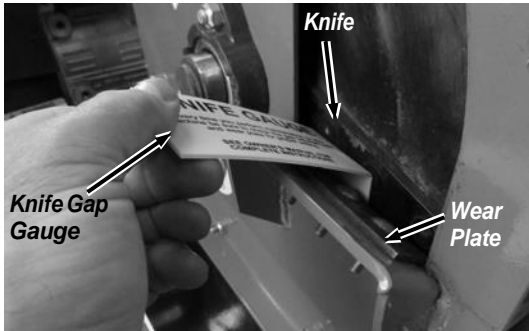

Figure 34
3. Slide the Knife Gap Gauge in between the Knife and Wear Plate to check the clearance (**Figure 34**).
5. Slide the Gap Gauge between the Knife and Wear Plate (**Figure 34**). Adjust the Wear Plate against the Knife Gauge and tighten the outside Locknut, check the gap, tighten the inside Locknut and then the center Locknut.